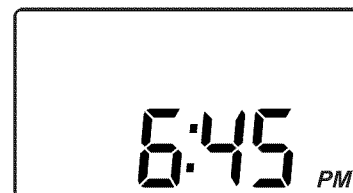

Figure 20
2. The flashing "RECHARGE OFF" on the display should be replaced by the normal time of day screen, as shown in Figure 20.